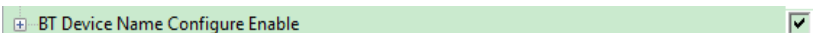

Figure 17
- BT Device Name Configure Enable: Click to enable “Change BT Device Name”, as shown in Figure 17. The Bluetooth name after successful change is “BM67C741-1”. Users can also customise the Bluetooth name on the bleprocess.c page. Here, find the red box position shown in Figure 18 which can then be changed, the maximum length is 31-bytes